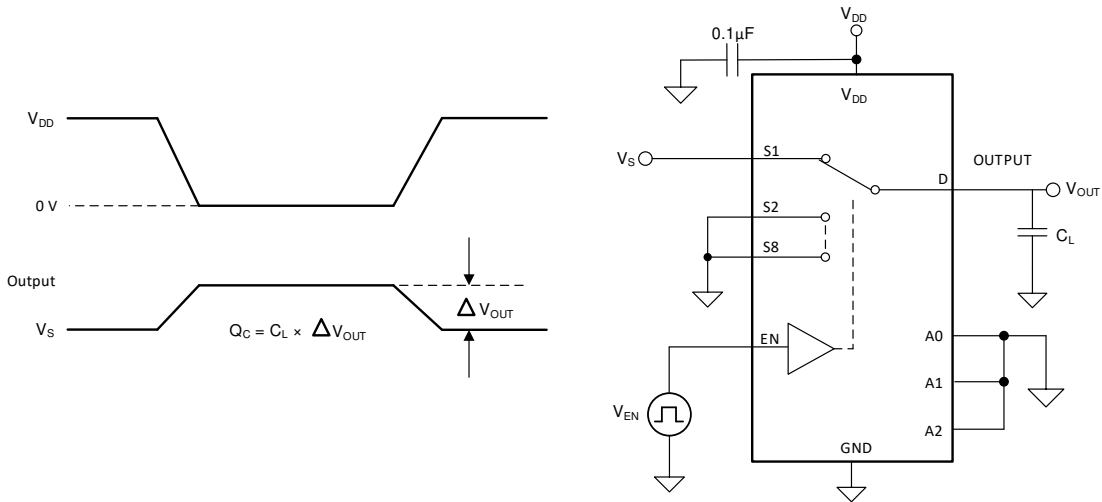

图 7-7. Charge-Injection Measurement Setup
The TMUX1208-Q1 has a transmission-gate topology. Any mismatch in capacitance between the NMOS and PMOS transistors results in a charge injected into the drain or source during the falling or rising edge of the gate signal. The amount of charge injected into the source or drain of the device is known as charge injection, and is denoted by the symbol  $Q_C$ . 图 7-7 shows the setup used to measure charge injection from source (Sx) to drain (D).